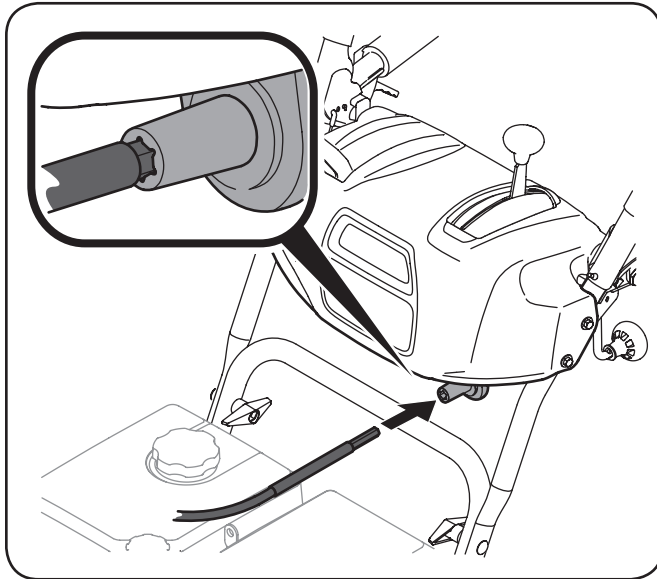

Figure 3-8
6. Insert hex end of flex shaft into the chute control rod coupling under the dash panel. See Figure 3-8.